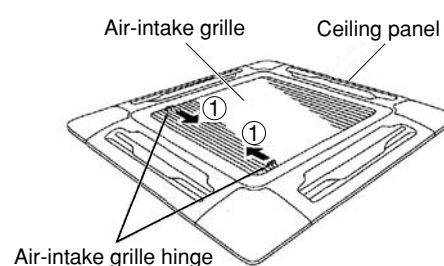

Fig. 9-13
- b) Slide the air-intake grille catches in the direction shown by the arrows ① to open the grille. (Fig. 9-13)